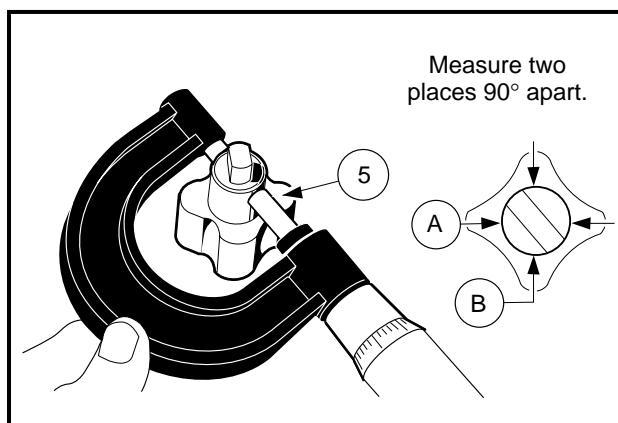

Figure 13-67 Measure Pump Shaft Bearing Surface
- 4.1. Measure the pump shaft bearing surface. Replace both rotors as a set if the measurement is less than 0.4971 inch (12.627 mm) (**Figure 13-67, Page 13-33**).